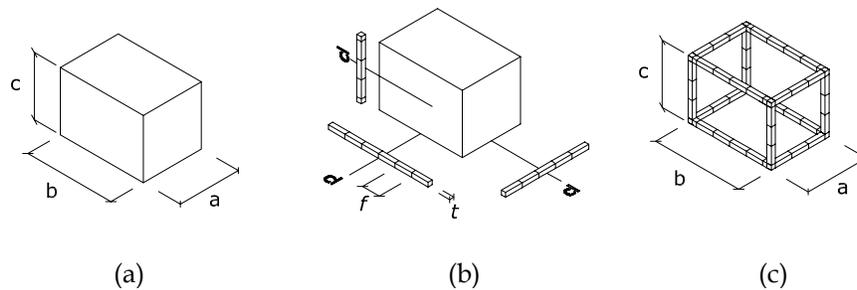

Figure 1, a design model and assembly tabs
- 2) Build geometry for tabs to be attached to the edges of each surface (figure 1). They are built such that the edge of each represents the material thickness ( $t$ ) the length is divided by the number of joints needed for each side. The more joints the harder the assembly, fewer joints will yield a weak assembly.